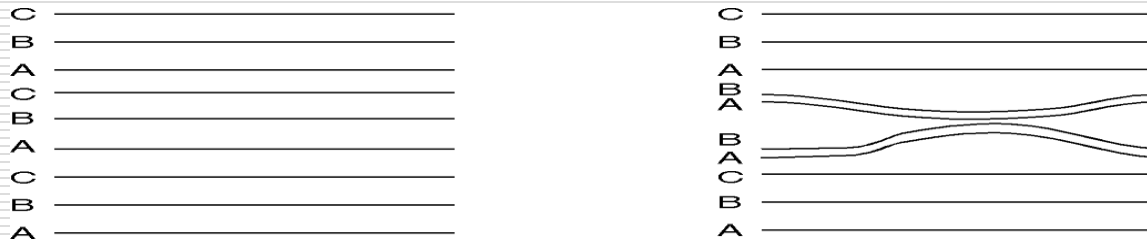

Fig. No.19 : Stacking fault
- Fig.No.19(a) shows that the proper sequence of atomic planes we can read from lower end to upper end end is A-B-C-A-B-C-A-B-C.